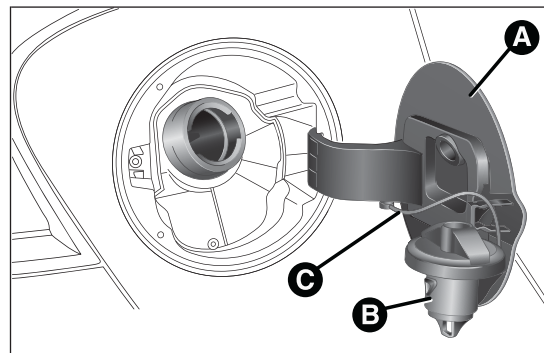

fig. 87
- open the flap A fig. 87 pulling it outwards;
The plug has a device C fig. 87 that attaches it to the flap so that it cannot be lost. When refilling, attach the plug to the flap, as shown.
After refuelling, fit the plug B fig. 87 (complete with key) and turn it clockwise until it clicks once or more. Turn the key clockwise and remove it. Close the flap A.